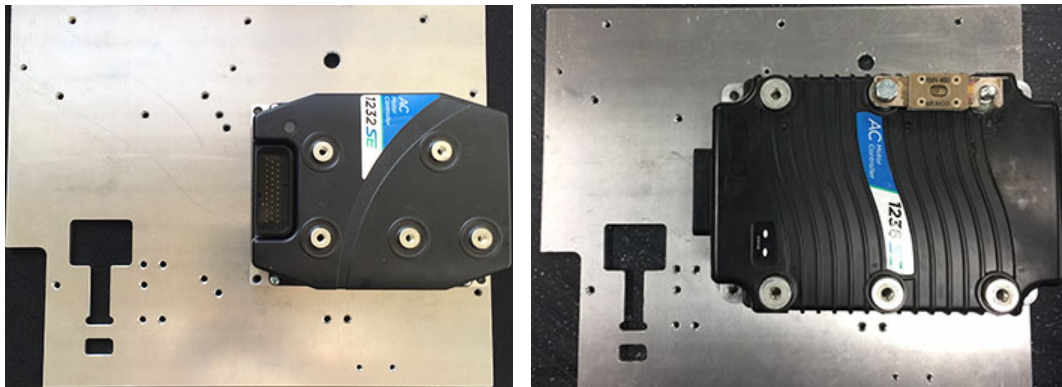

Fig. 15 – 1232 Curtis Controller or 1234/1236 Controller
3. Turn the controller mounting plate over and install the controller. (Fig. 15)